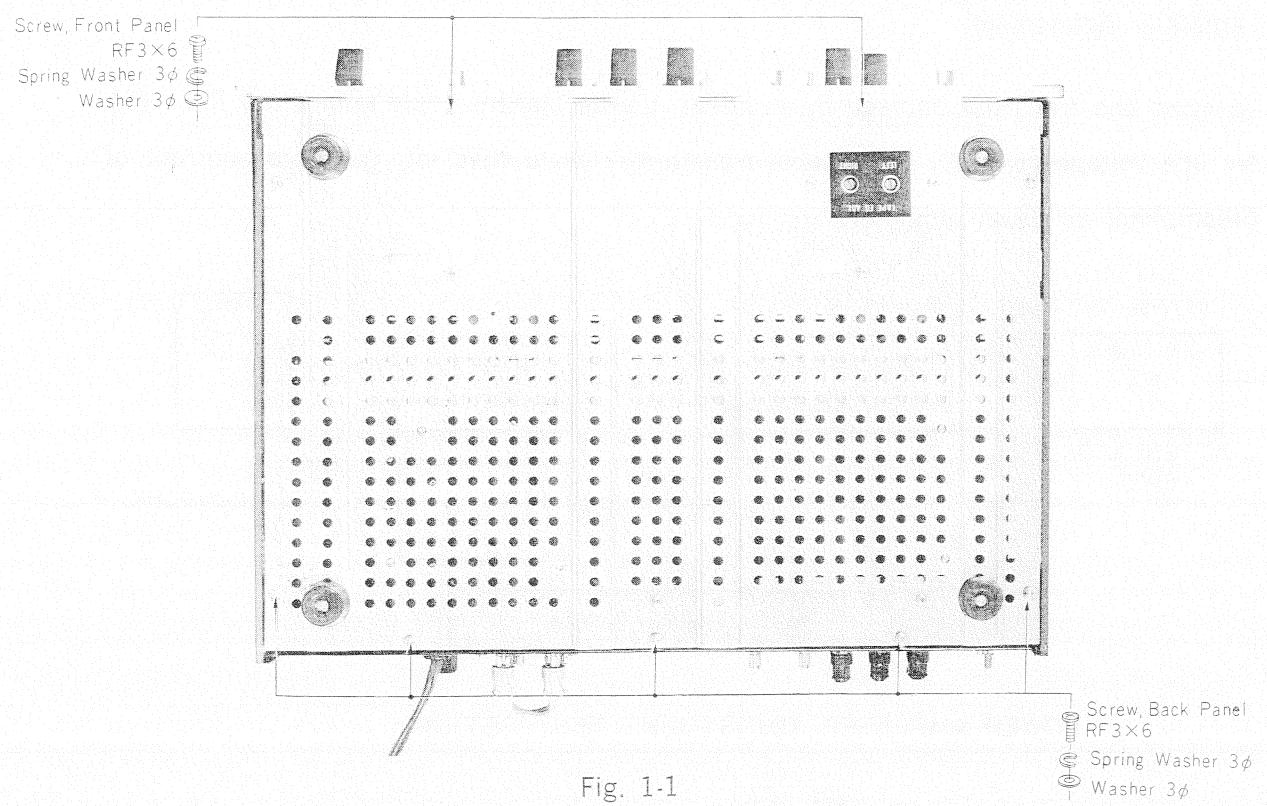

Fig. 1-1
- (1) Removal of Power Amplifier and Power Supply Section.
- (b) Remove five screws (+RF 3×6) from bottom of chassis to release the back panel section as shown in Fig. 1-1.
- (2) Removal of Preamplifier Section and Control Panel.
- (a) After taking the chassis cover off, remove the two screws (+RF 3×6) from bottom of the chassis as shown in Fig. 1-1.